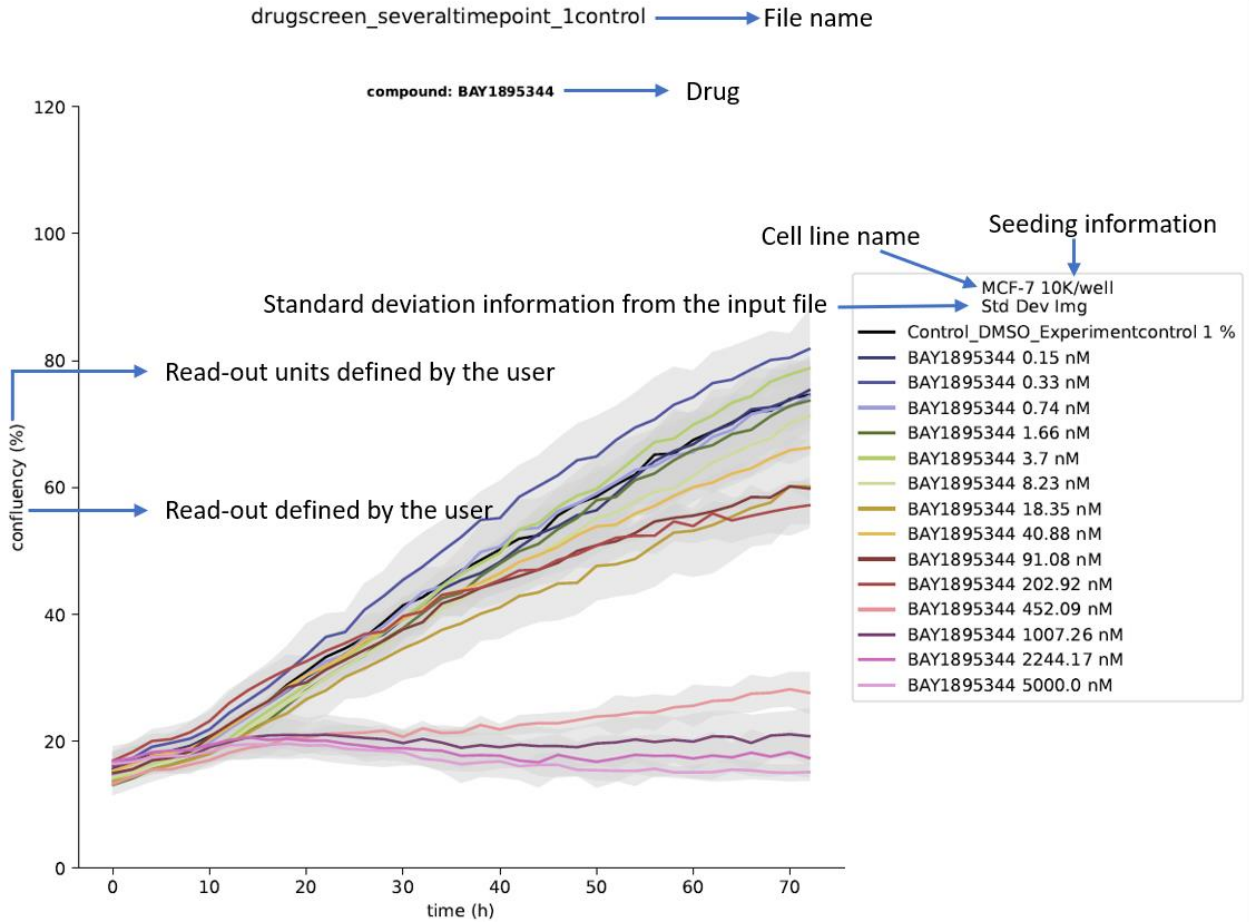

Figure 19: XY-plot example of raw data regarding to all dosage tested of BAY1895344. Y-axis is the read-out provided by the user and on the X-axis is time.
- Raw data plotted as XY-plot shown on Figure 19.